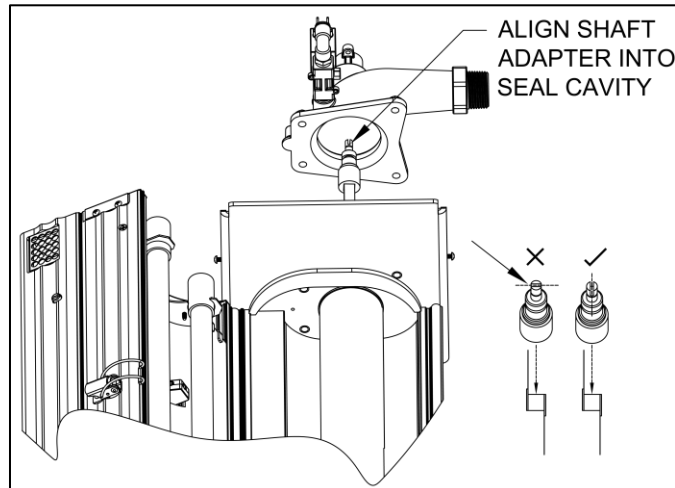

Figure 7-8
3. Once the quartz sleeve is clean, reassemble the unit (see Figure 7.8). Replace any seals that appear to have been damaged.
2. Ensure quartz O-ring seal is in place around quartz sleeve and then replace the top manifold by aligning the shaft adapter into the seal cavity of the top manifold (see Figure 7.8).